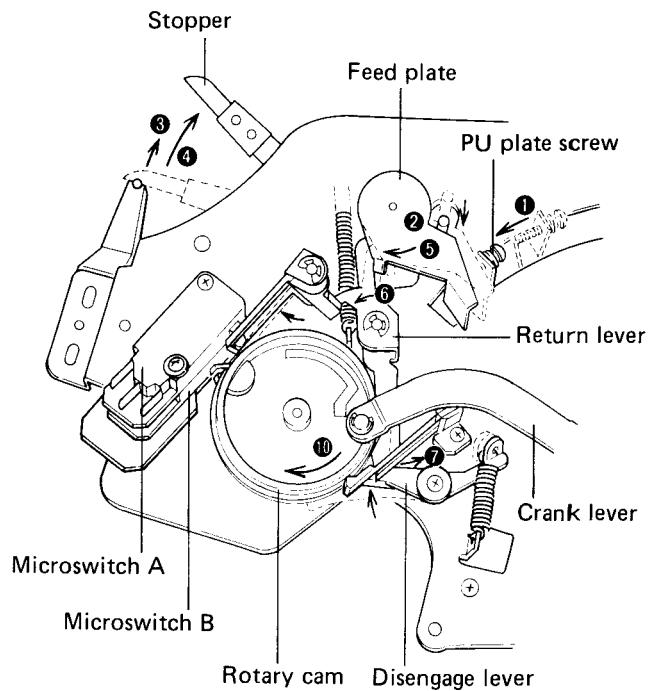

Fig. 6
1. As the tonearm approaches the lead-out groove of the record, PU plate screw presses against the feed plate, thereby moving the stopper towards the center shaft (see Fig. 6).
2. Once the stopper snaps back by the pin attached to the motor, microswitch B (lower side) is turned on by the return lever, resulting in power being applied to the Timing motor (see Fig. 6).
- Nos. ① to ⑩ in Fig. 6 indicate the sequence of events up until the Timing motor commences to rotate.